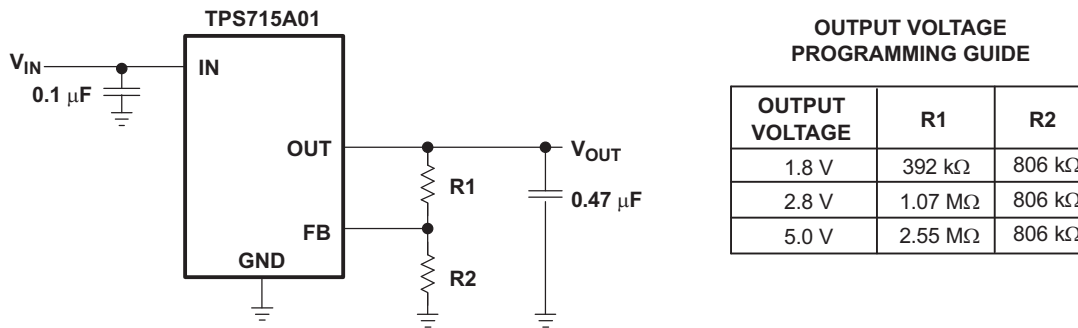

Figure 15. TPS715A01 Adjustable LDO Regulator Programming
The output voltage of the TPS715A01 adjustable regulator is programmed using an external resistor divider as shown in Figure 15. The output voltage is calculated using Equation 3:
- Updated Figure 15 **8**